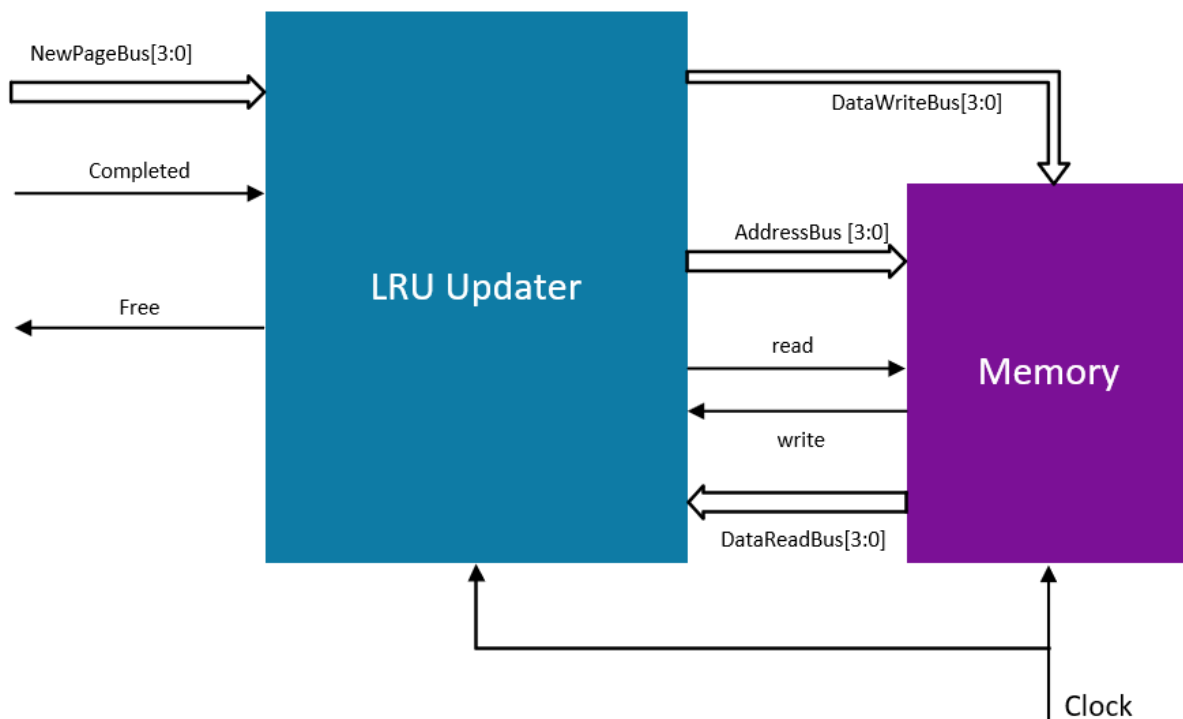

Figure 1. LRU Updater
Consider that We have sixteen pages with tags from 0 to 15 (0 is the most recently used and 15 is the least recently used). The tag of each page is defined using a 4-bit binary number that are kept in a Memory. As shown in figure 1, the Memory needs a 4-bit address bus and two 4-bit data buses. *NewPageBus* input provides the ID of the current page that has just been accessed. A pulse on the *completed* input shows that the page access has been completed and the LRU memory needs to be updated. All pages with lower tag than the tag of the recently accessed page must increment their
- Using signals shown in the figure 1, design a datapath and a controller for the LRU Updater box. Show the components of your datapath and the necessary internal signals. Draw a state diagram that clearly describes the behavior of your controller and issuance of control signals. (**Hint:** use a counter for addressing the memory in your datapath.)